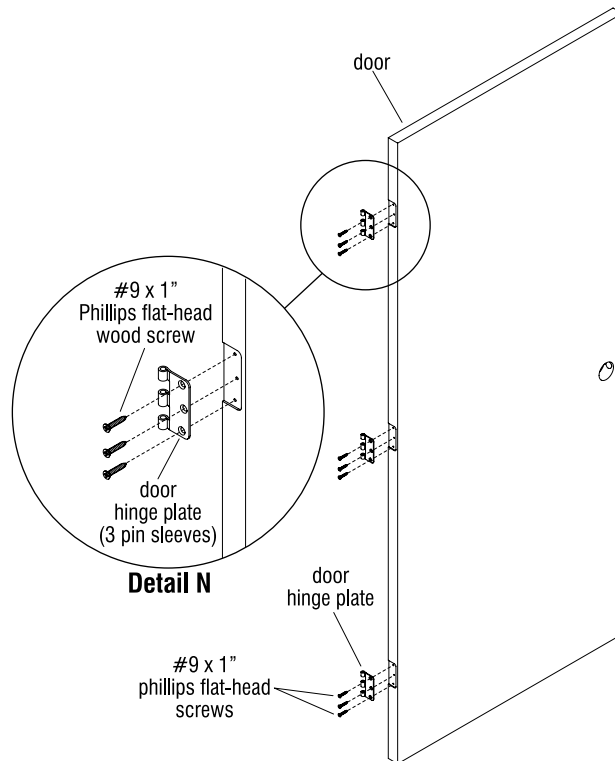

Figure 6
16. Install three door hinge plates (with three pin sleeves - Detail N) into pockets of door edge as illustrated using #9 x 1" flat-head wood screws. Do not over-tighten which may strip wood out (Figure 6 & Detail N).